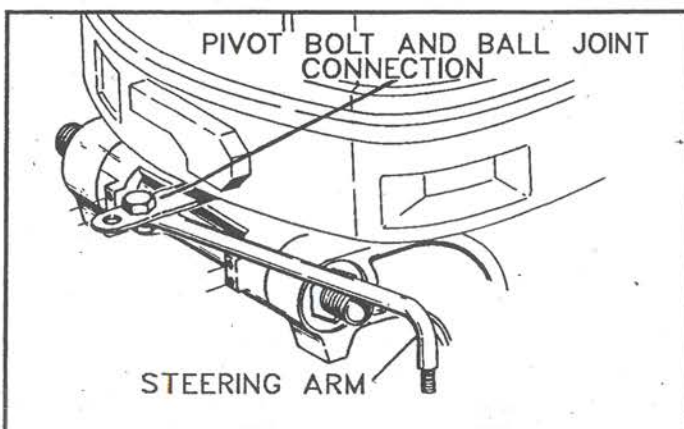

FIGURE 2 STEERING ARM INSTALLATION
A. Install the *Steering Arm* to the motor Tiller Arm using the inner (rearmost) bolt hole, and torque to specification. Be sure to use the *Lock Nut*, as shown in the rigging specifications. See Figure 2.